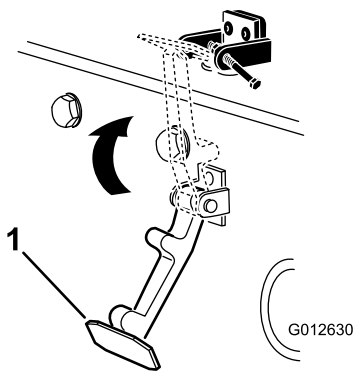

Figure 5
6. Hook the latch onto the hood latch bracket (Figure 5).